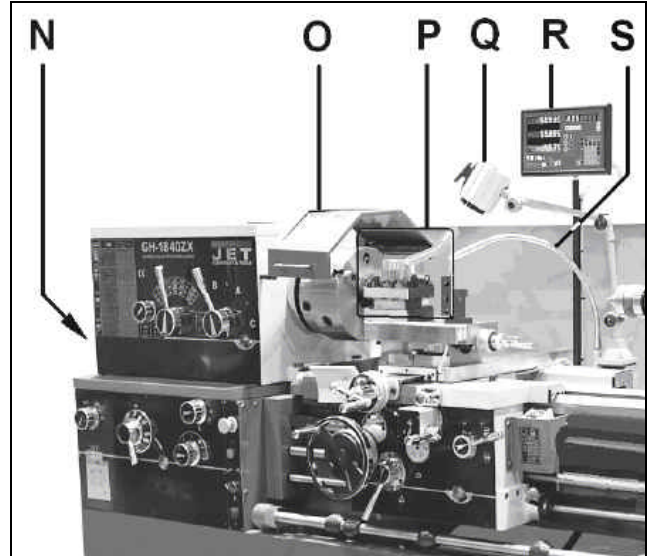

Fig 2-2
The pulley cover (N, Fig 2-2) and the chuck guard (O) are limit switch protected. They must be closed to operate the machine.